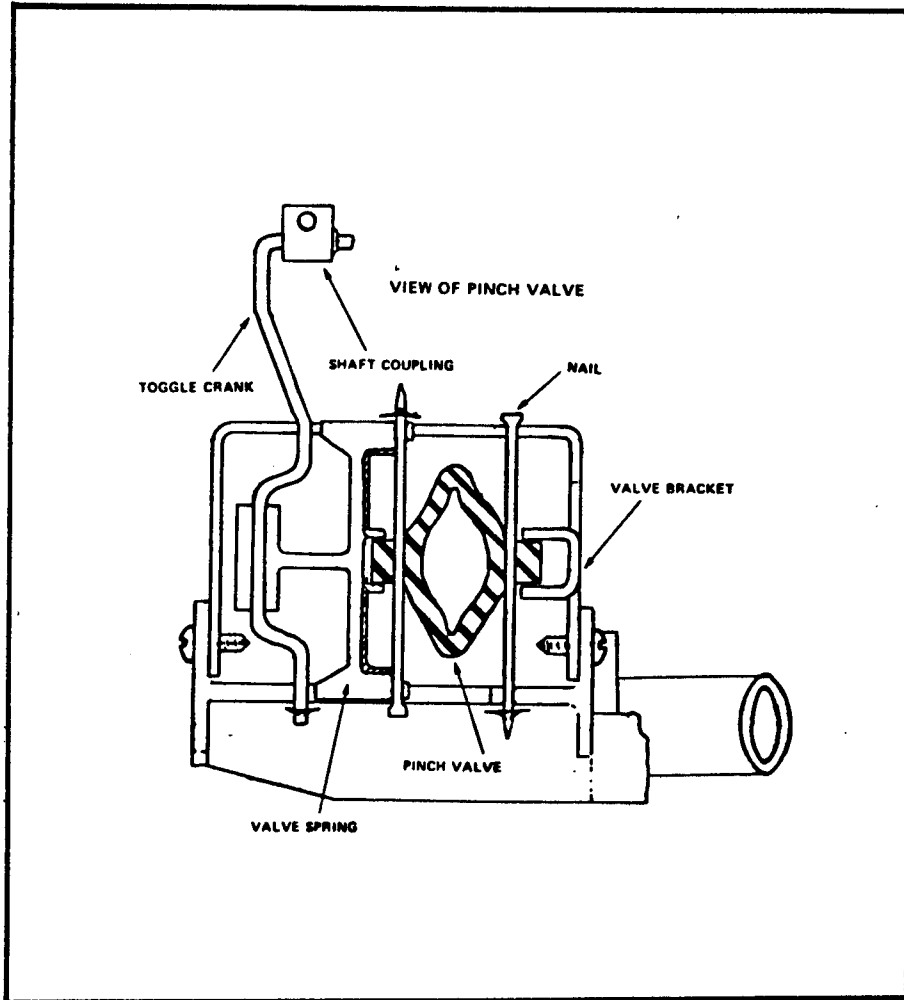

FIGURE 5
2. Remove the drain hose and spin tub hose from the pump. Fig. 5.